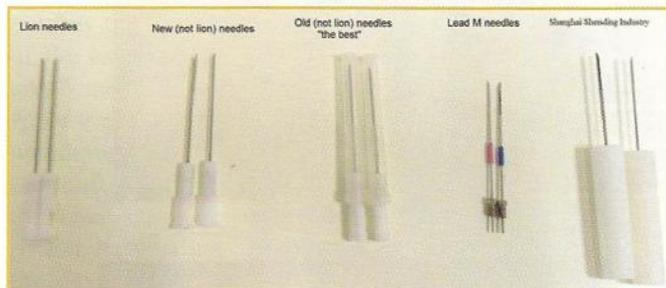

Figure 1. It is best to use a disposable needle.
1. Needle (disposable) (Figure 1):